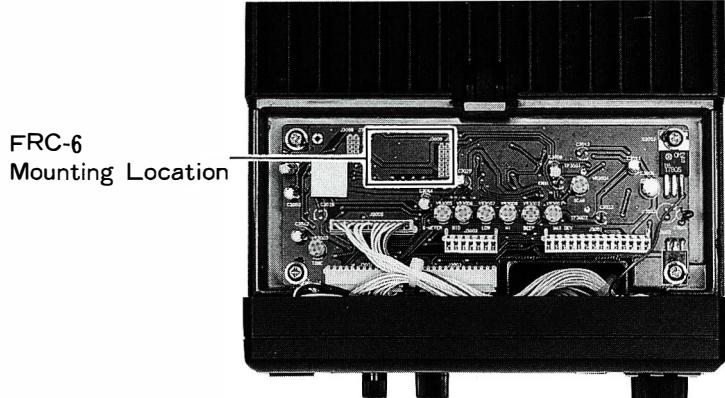

Figure 2
- Referring to Figure 2, note the accessory mounting location for the FRC-6 over the larger of the two empty white connectors.